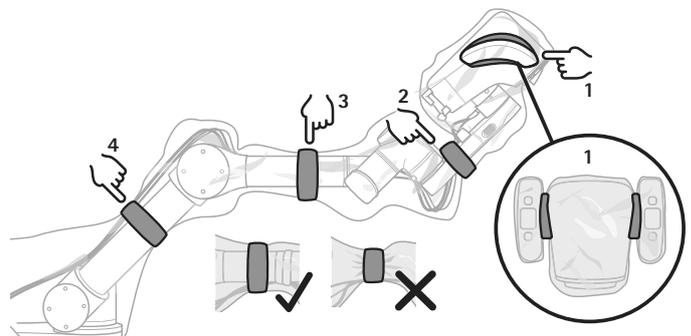

Fig. 20
- ▶ Attach the adhesive tape as follows, see Fig. 20: